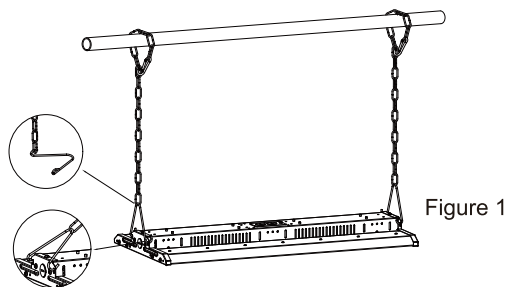

Figure 1
Step1.Hook up the chain; (Figure 1)
Step2.Connect the chain with fixture; (Figure 1)
Step3. Fix the chain on the rail, adjust the chain length as per need; (Figure 1)